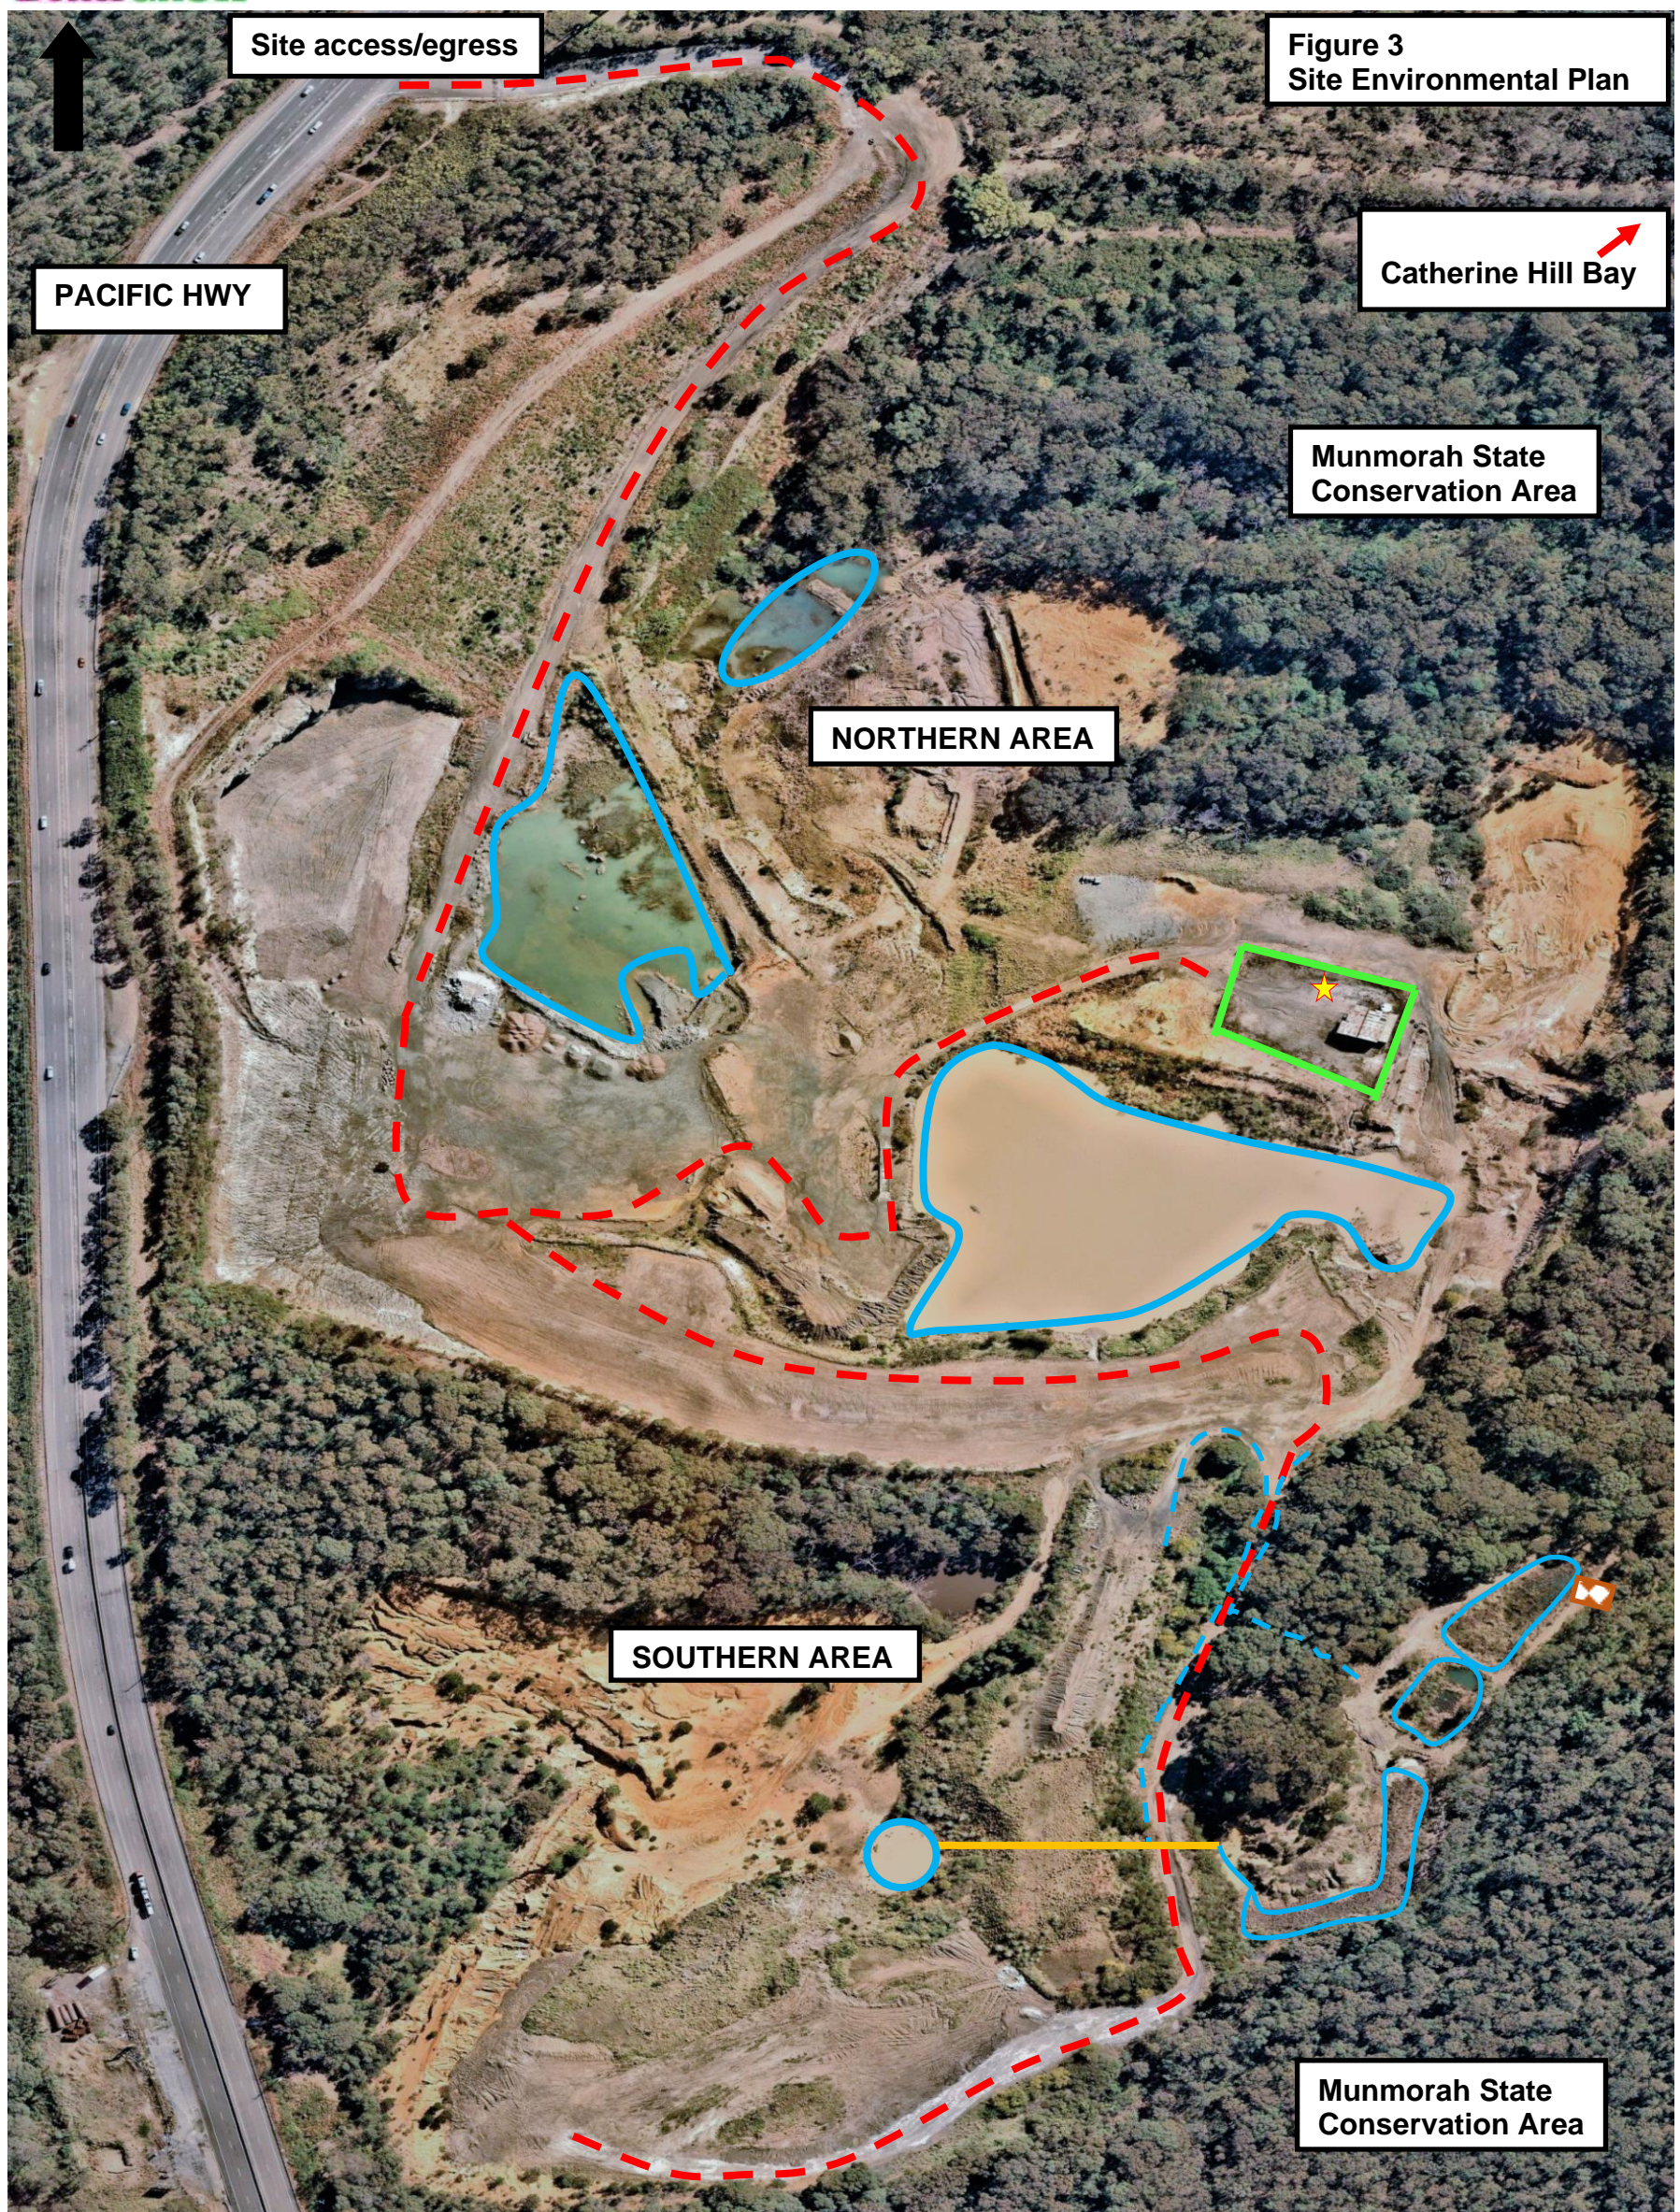

**Figure 2 Affected Areas & Neighbours**
- Figure 2 – Affected Areas & Neighbours